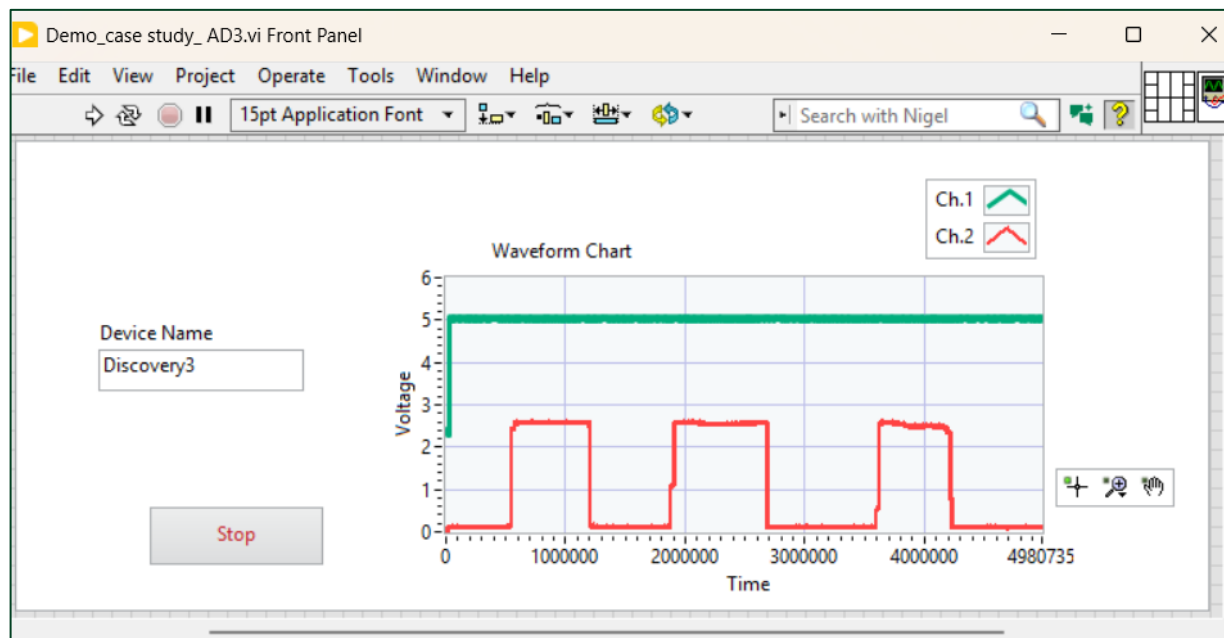

Figure 7. VI Front Panel - Displaying Real-Time Vctrl and LED Output Signals
2.2. Modify the front panel shown in **Figure 7**. Inside **Device name** String Control write your corresponding **Device** name from **Table 2**.